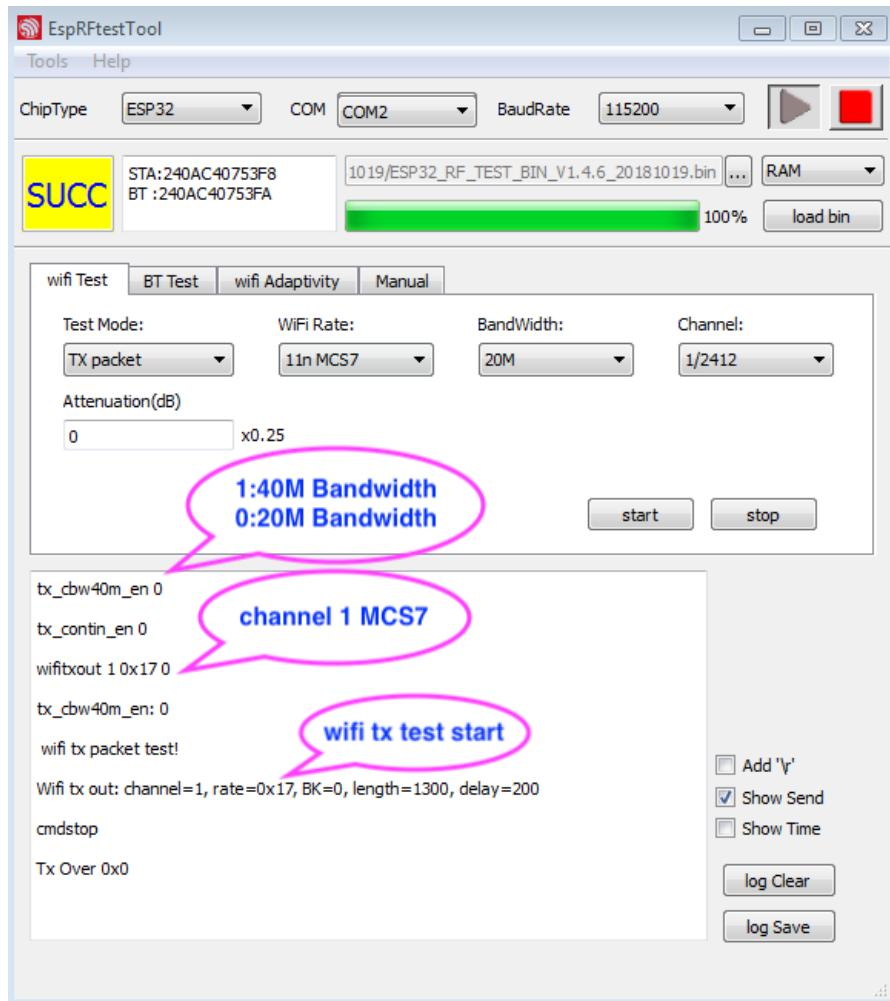

Figure 5-1. Log Output of the ESP32 Wi-Fi TX Test
3. For example, if the **WiFi Rate** is set to **MCS7**, **Bandwidth** to **20 M**, and **Channel** to **1**, you may choose the options as shown in Figure 5-1, and click on **start** to begin the test. You will get the log output described below: